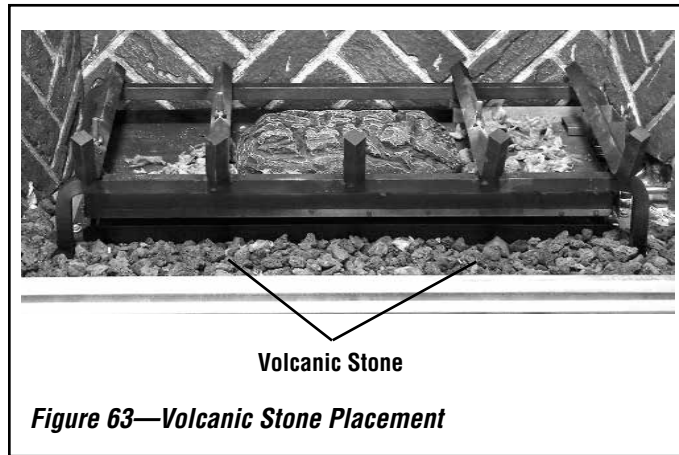

Figure 63—Volcanic Stone Placement
- **If logs are not installed according to the log installation instructions, flame impingement and improper combustion could occur and result in soot and/or excessive production of carbon monoxide (CO), a colorless, odorless, toxic gas.**
2. Place volcanic stone around the burner, as shown in **Figure 63**.